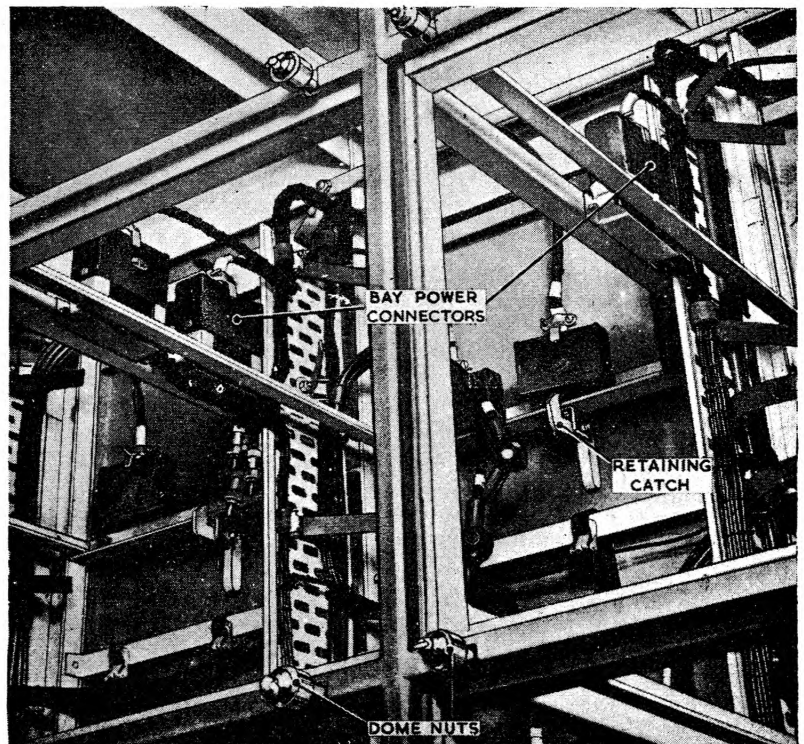
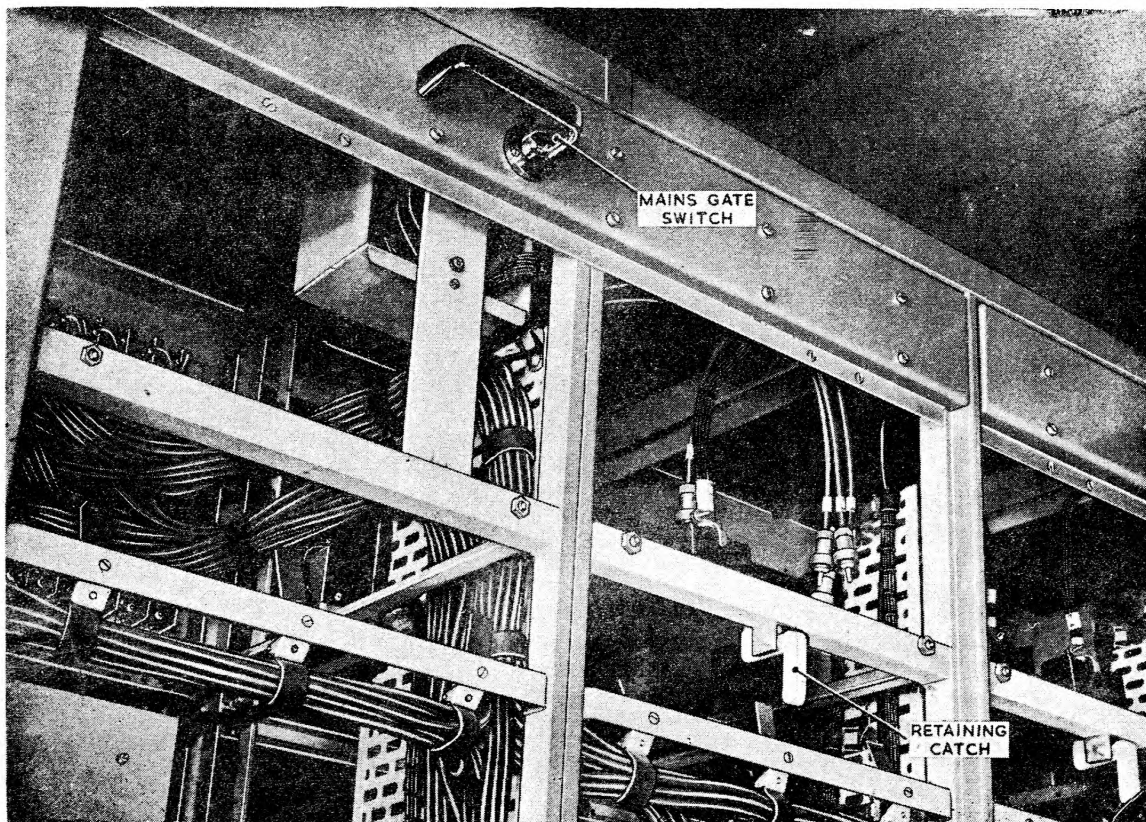

Fig. 1. Rack assembly Type 165—front detail
Fig. 2. Rack assembly Type 165—rear detail
- (1) Switch off the unit concerned.
- (2) Unscrew the dome nuts (*fig. 1*) holding the foot of the front panel.
- (3) Turn off the main gate switch at the back of the rack (*fig. 2*); all power is switched off the rack by the main gate switch.
- (4) Remove the appropriate rear cover from the rack; the cover cannot be removed unless the gate switch is off.
- (5) Remove the plugs and sockets from the rear of the unit.
- (6) Disengage the retaining catch (*fig. 1 and 2*) from the bottom flange on the rear of the chassis of the unit, and push the unit forward a few inches to prevent the catch from returning to its hold position.
- (7) Withdraw the unit through and out of the rack from the front.